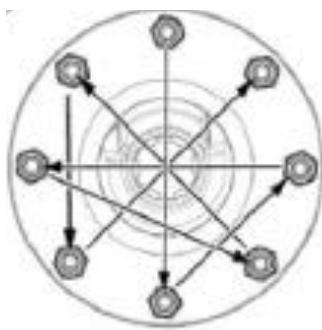

Figure 44
8. When tightening the bolts use a crossing pattern. Figure 44
9. Once the clutch is burnished tighten the bolts in the same crossing pattern until the dimension of between the spring and plate is reached at each bolt location, Figure 44. Tighten the bolts 2 flats and then go to the next bolt.